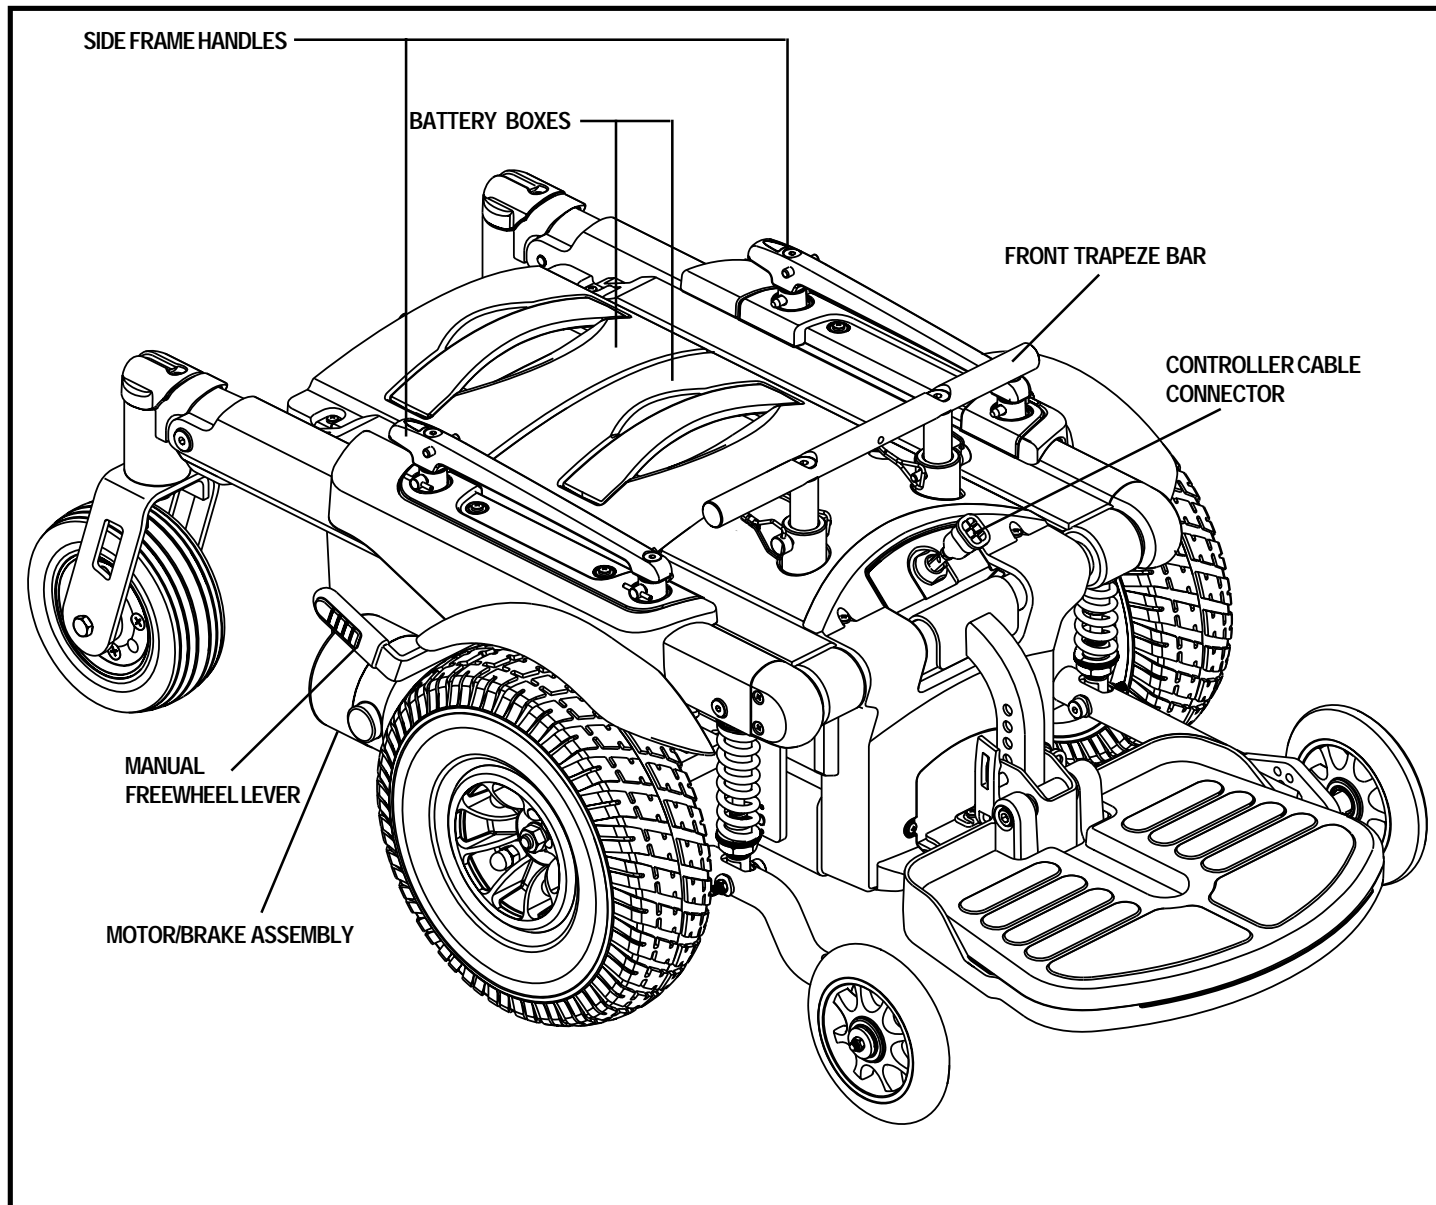

Figure 6. The Quantum 1107 Power Base
The electrical components consist of the controller assembly, the batteries, and the motors. The batteries, motors, and controller power module (if equipped) are located on the power base assembly. See figures 6 and 7. The controller is located on the seat assembly. Connectivity between the controller and the motors, the batteries, and the battery charger is provided by one or more wiring harnesses.
Your power chair has a manual freewheel lever on each motor. See figure 6. Manual freewheel levers enable you to disengage the drive motors from the gearboxes and maneuver the chair manually.
2. Disconnect the controller. See figure 6.
2. Disconnect the controller from the power base. See figure 6.